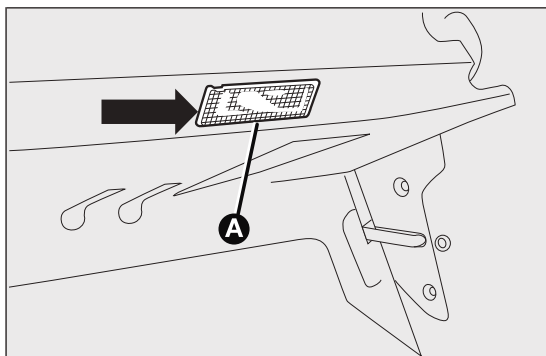

fig. 160
- remove the light A fig. 160 levering in the point shown by the arrow;